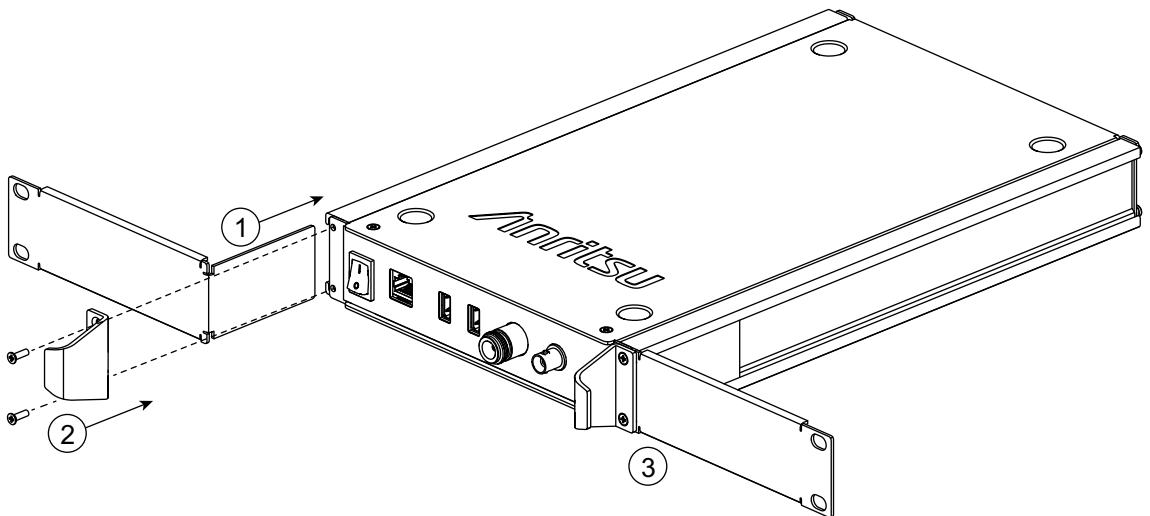

Figure 1-4. Installing the MS27101A Mounting Brackets
2. Slide the two mounting brackets into the aluminum extrusions as shown in Figure 1-4 (1), then reinstall the front panel handles (2 and 3) using the same screws that were removed in Step 1.